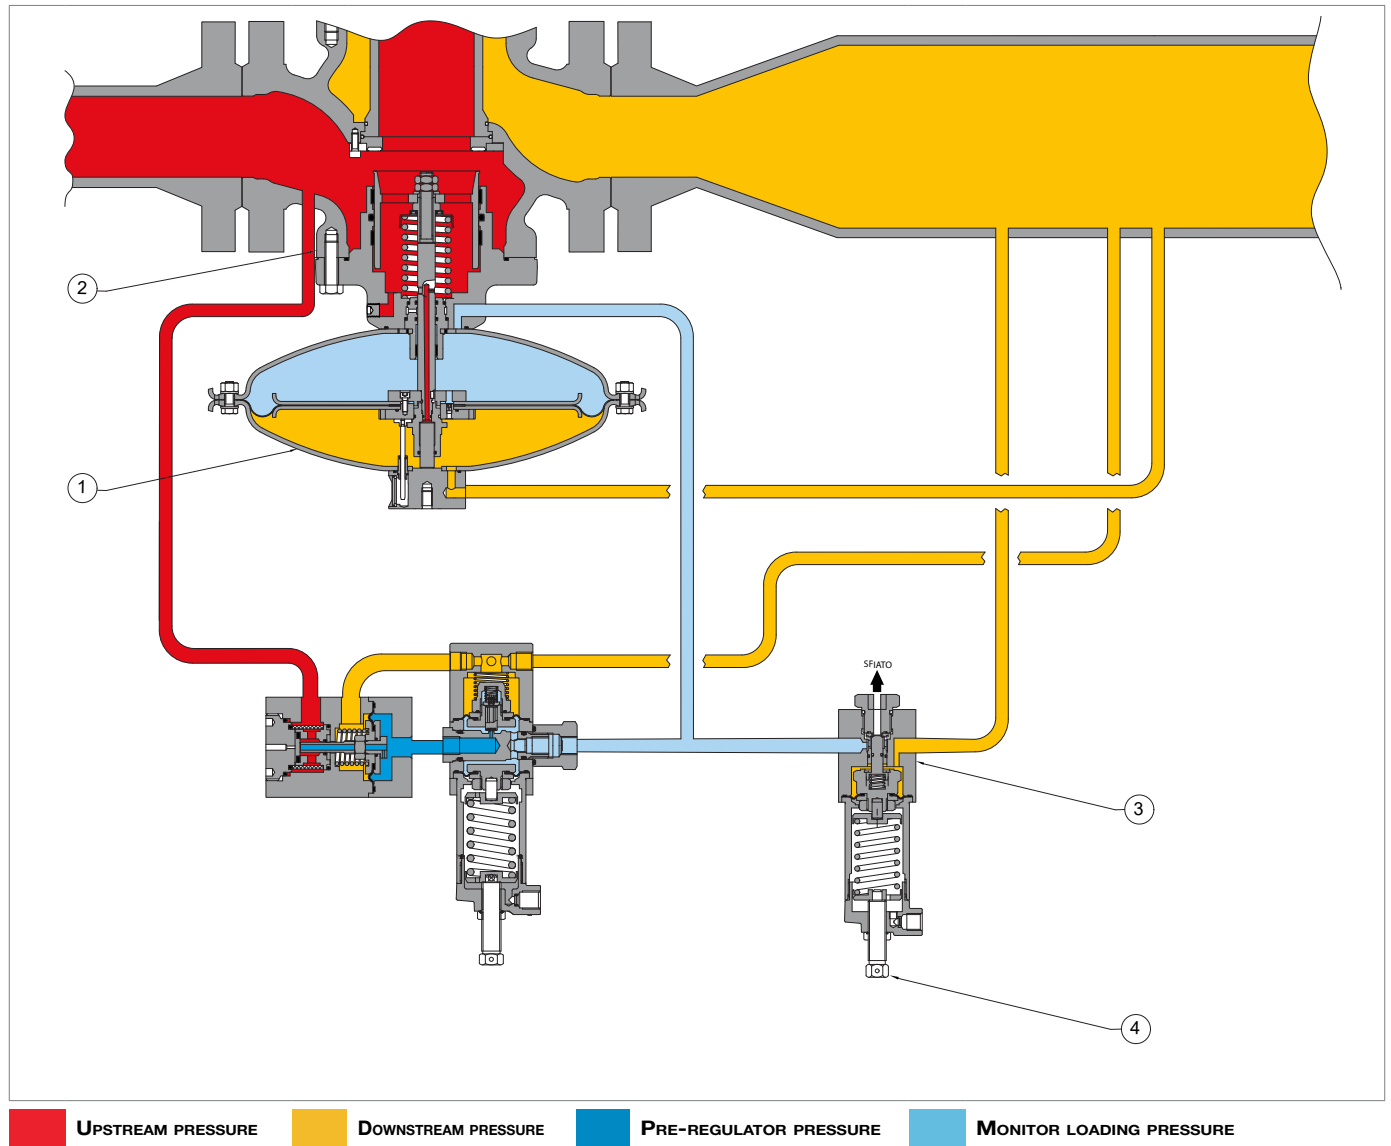

Fig. 4.10. M/A accelerating valve
- M/A (3, fig. 4.10), in the case of downstream pressure (Pd) from 0.55 bar.
- the adjusting screw (4, fig. 4.10) for the M/A valve
Fig. 4.10 shows the M/A accelerating valve.